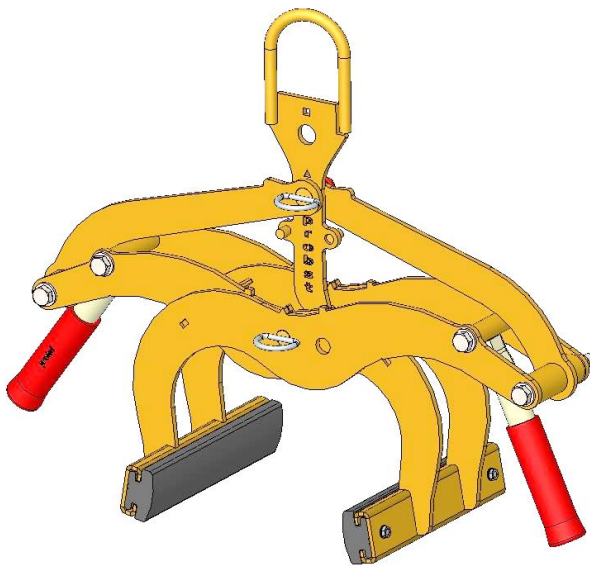
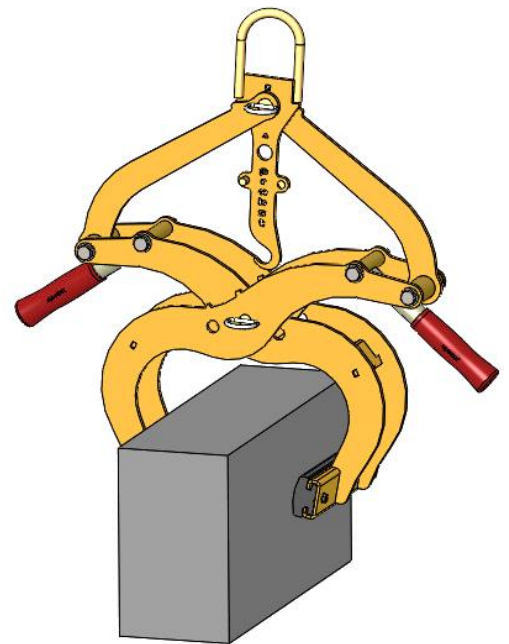

Fig.2
Fig.3
- The ▲ triangle markings (at the gripping arms) must be congruent (in the middle of the device) for these gripping range (Fig. 2). The ▲ triangle marking at the locking hook (2) must be positioned over the plug bolt with linchpin (7) → Fig.3.
- Remove the plug bolt with linchpin (6) or rather the plug bolt with linchpin (7), to adjust the gripping range.
- After the gripping range is adjusted, the device must be secured again with the plug bolt with linchpin (7) or rather with plug bolt with linchpin (6).
- The ■ quadrate markings (at the gripping arms) must be congruent (in the middle of the device) for these gripping range (Fig. 2). The ■ triangle marking at the locking hook (2) must be positioned over the plug bolt with linchpin (7) → Fig.3.
- Remove the safety bolt (6) and the plug bolt with linchpin (7), to adjust the gripping range.